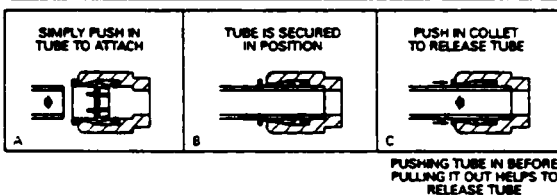

FIG. 4
5. Loosen the two (2) screws holding the lower front panel at the bottom of cooler base and two (2) screws at the top. Remove the front panel and set aside.
6. Install a 3/8" O.D. water line between the service stop valve and cooler. Remove burr from outside of water line. Insert 3/8" O.D. water line in inlet side of "Y" strainer (see Fig. 3) to positive stop - approx. 3/4 inch. (See Fig. 4)
- 17). To drain the evaporator, remove styrofoam cap on bottom of evaporator and then remove drain plug (item #52). See Fig. 4.